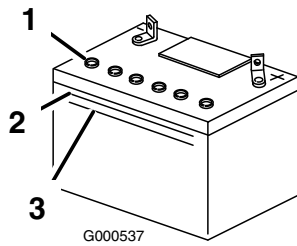

Figure 33
1. Look at the side of the battery. The electrolyte must be up to the **upper** line (Figure 33). Do not allow the electrolyte to fall below the Lower line (Figure 33).
3. Remove the vent caps from the battery (Figure 33).
4. Slowly pour distilled water into each battery cell until the electrolyte level is up to the Upper line (Figure 33) on the battery case.
5. Wait five to ten minutes after filling the battery cells. Add distilled water, if necessary, until the electrolyte level is up to the Upper line (Figure 33) on the battery case.